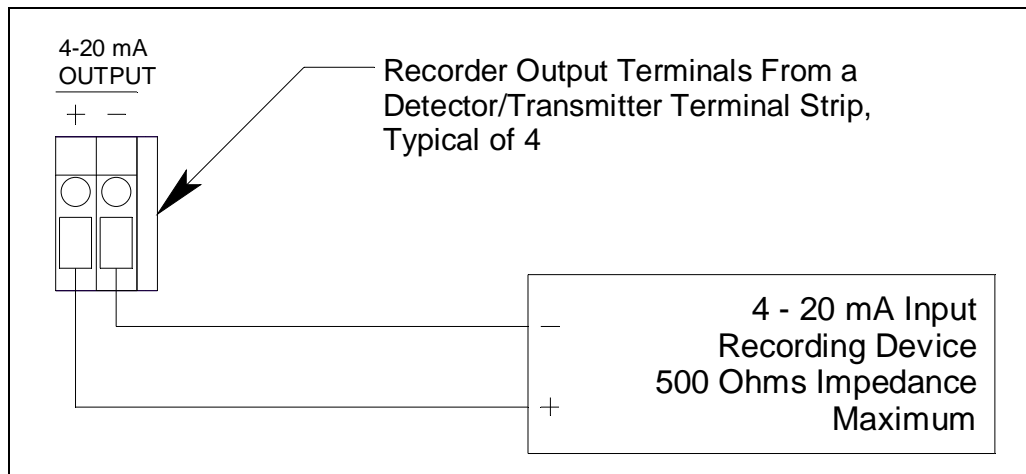

Figure 16: Recorder Output Wiring
6. Connect the leads from the recording device to the recorder output terminals of the selected active channels as shown in Figure 16 below.